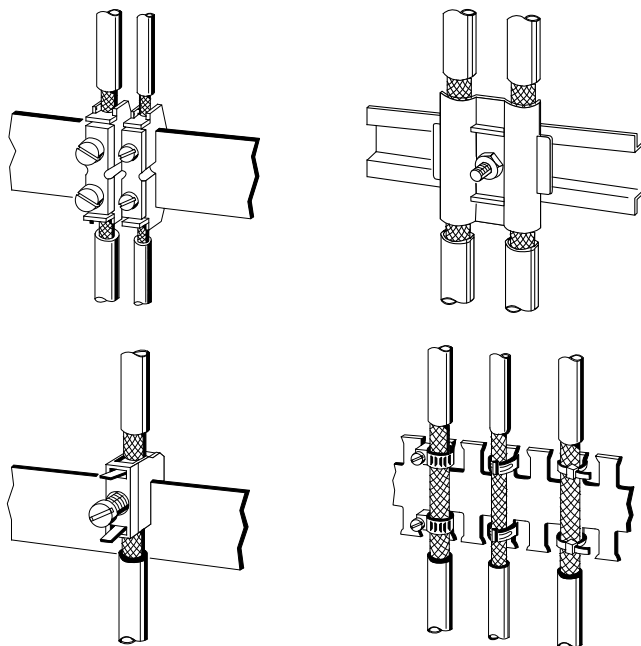

Figure 3-4. Examples of Securing Shielded Lines with Cable Clamps
- Use metal cable clamps for securing the braided shield. The clamps must enclose the shield over a large area and provide a good contact (see Figure 3-4).